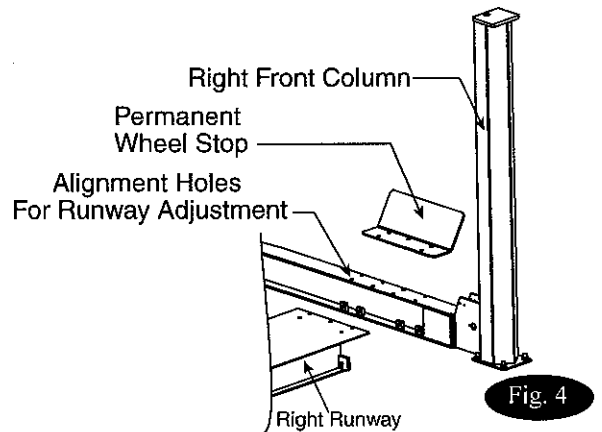
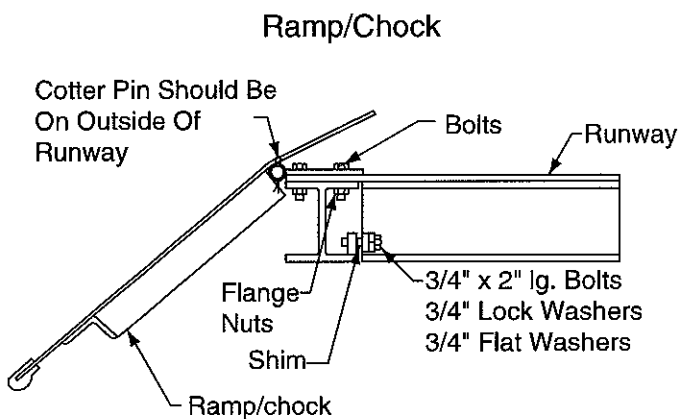
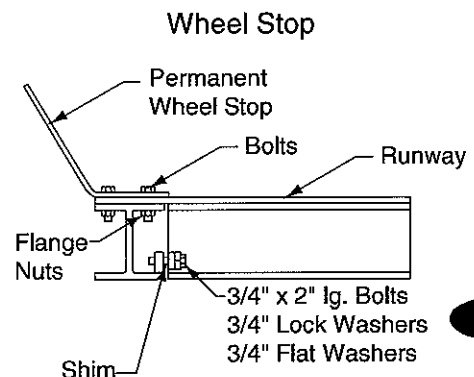

Fig. 4
Fig. 5
Fig. 6
- C. Position front and rear yokes at respective ends of runway, Fig. 1. Feed cable ends through yoke end, Fig. 4. Do not assemble sheaves in yoke ends at this time.
- D. Lay right runway in place on yoke. Slide right runway toward outside of lift until holes in yoke and runway line up, Fig. 4. Hold runway in place and bolt on ramp/chock and wheel stops to runway using ten $\frac{3}{8}$ " x $2\frac{1}{2}$ " bolts and flange nuts. Square up yokes with runways using four $\frac{3}{4}$ "-10NC x 2" lg. bolts, $\frac{3}{4}$ " flat washers, $\frac{3}{4}$ " lock washers, and shims. Ramp/chocks go on rear, Fig. 5. and Fig. 6. Repeat for left runway.